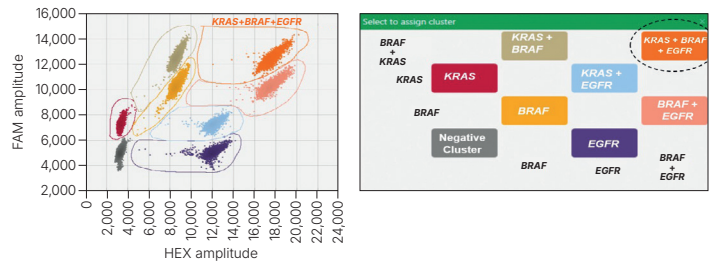

Fig. 25. Thresholding the Total Quant Assay triple-positive cluster.
- Threshold the triple-positive cluster by drawing the threshold around the top right cluster, extending to the edges of the previously drawn adjacent thresholds, then assigning the orange *KRAS + BRAF + EGFR* cluster as shown in Figure 25. Note that the presence and density of the cluster corresponds to the input DNA amount and may be minimal or absent with lower input amounts.